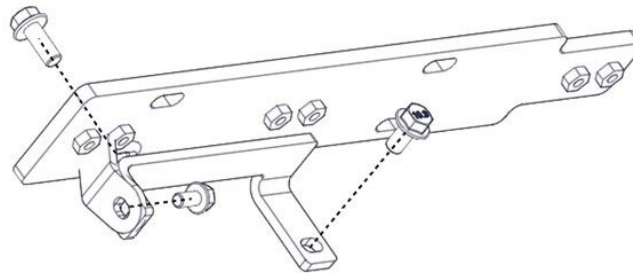

Figure 48.
3. Place the Thermostat housing bracket onto the exhaust manifold and insert and torque down the two bolts (Figure 48) to 22 ft/lbs.